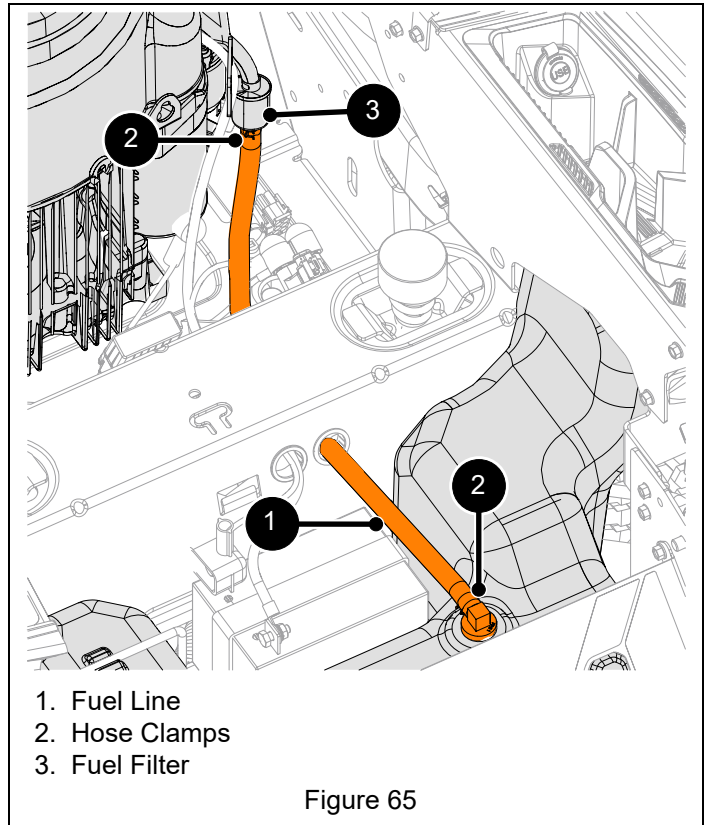

Figure 65
See Figure 65.
- See Figure 65.